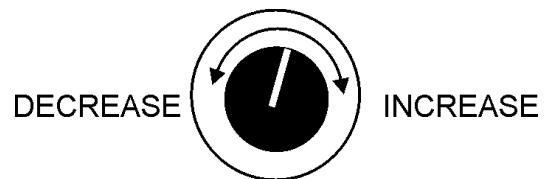

**Figure 50. Frequency Meter (Hz)**
11. The generator's frequency meter (Figure 50) should be displaying the 60 cycle output frequency in **HERTZ**.